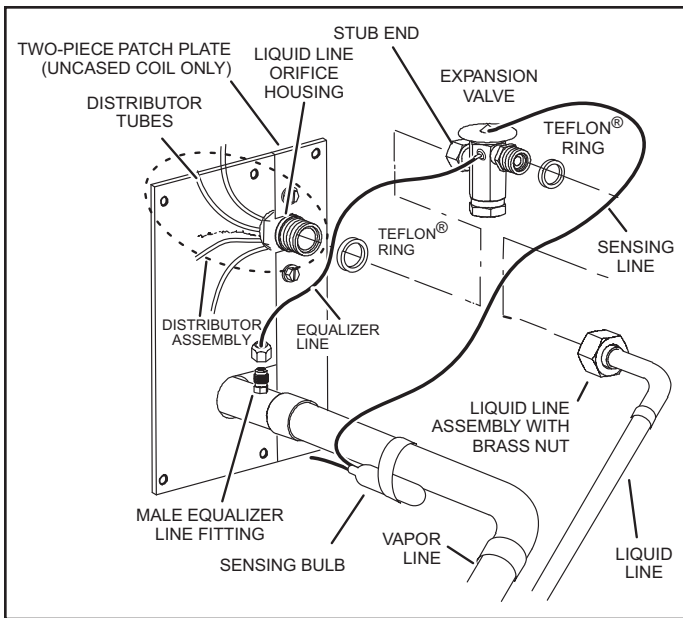

Figure 11. Remove Existing Expansion Valve (uncased coil shown)
7. Remove and discard check expansion valve and the two Teflon® rings (see Figure 11).